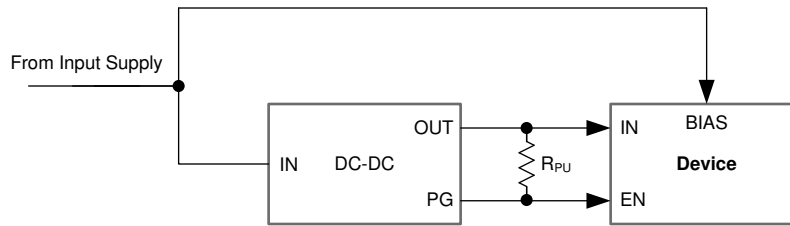

**图 8-5. Sequencing Diagram**
- VBIAS and VIN can be sequenced in any order, as long as VEN is tied to VIN or established after VIN, as shown in 图 8-5.